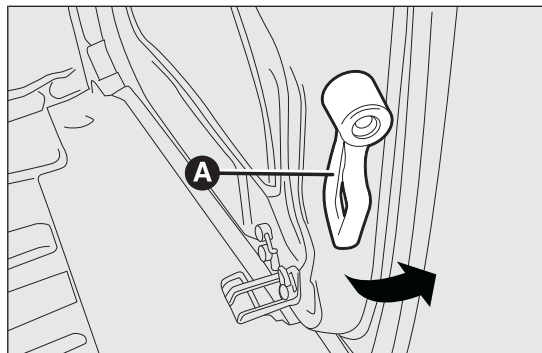

fig. 68
After having opened the first door, pull handle A fig. 68 in the direction shown by the arrow.
**IMPORTANT** Pull handle A fig. 68 in the direction of the arrow only.